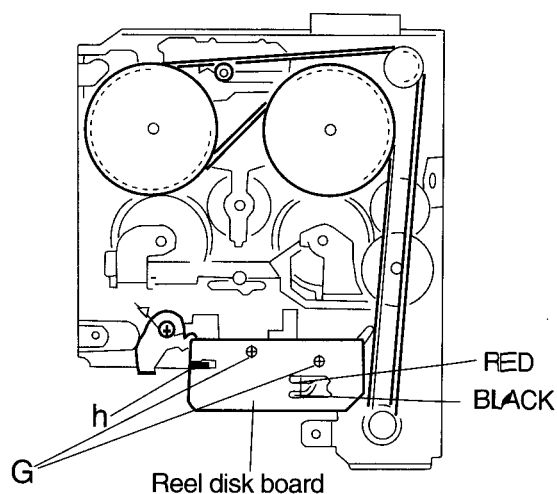

Fig. 10
■ Removing the Reel Disk Board (See Fig. 10)